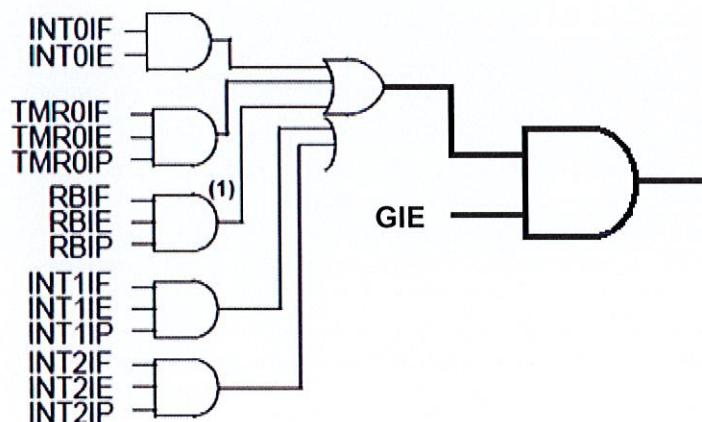

Figure A3 (a) / Rajah A3 (a)
- CLO1 (a) Based on Figure A3 (a), discuss the instructions to enable INT0 and INT1 external hardware interrupt in PIC18.